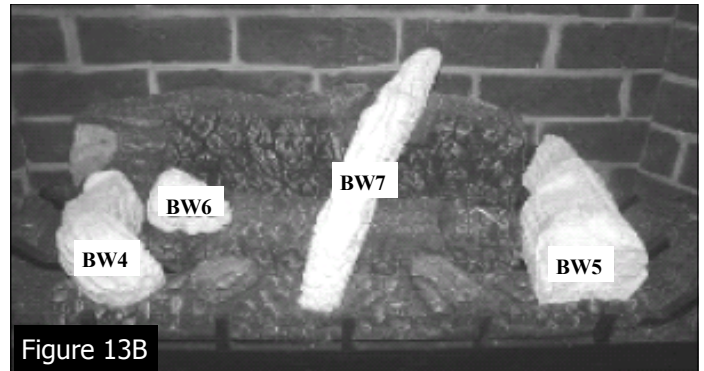

Figure 13B
2. Place the BW4 & BW5 logs onto the burner aligning the holes and/or notches to the burner cover. *Figure 13B*
3. Place the center logs; BW6 & BW7 over the base logs aligning the holes and/or notches in the logs to the base logs. *Figure 13B*